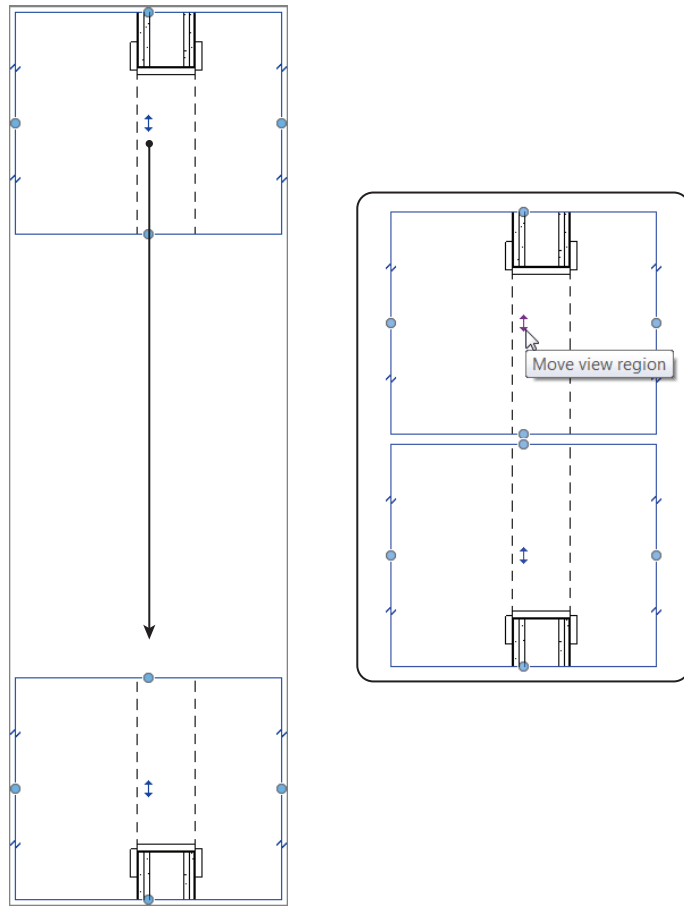

FIGURE 3.59: Sliding the view regions tighter together
5. Within the cropped regions are blue move icons. If you don't see blue icons, as shown in Figure 3.59, you need to select the crop region again.